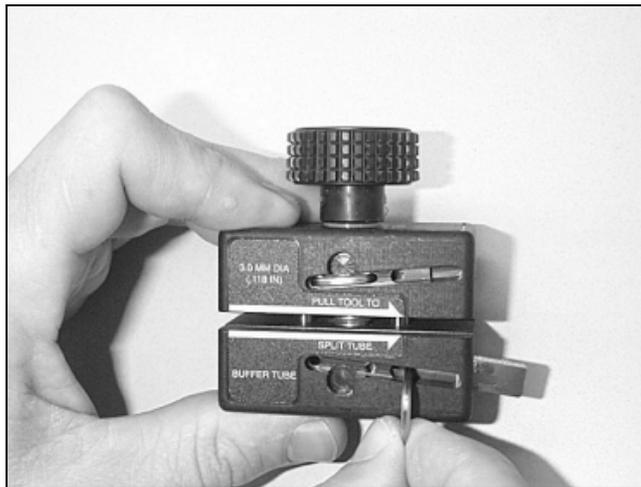

Figure 6 – Slide the cutting blade out of the tool.
6.3 Insert the tip of the locking clip into the elongated slot and push the cutting blade out of the tool (Figure 6).